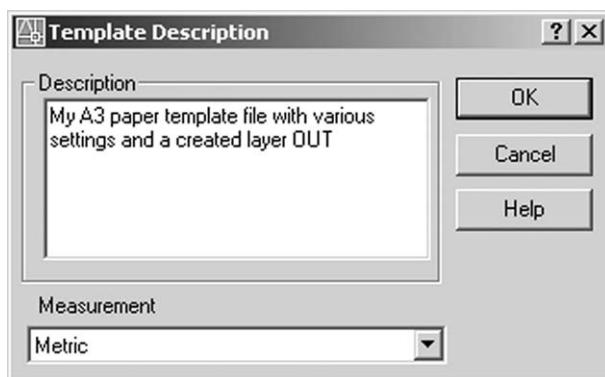

Figure 6.3 The Template Description box for A3PAPER.
b) Measurement: Metric – Figure 6.3